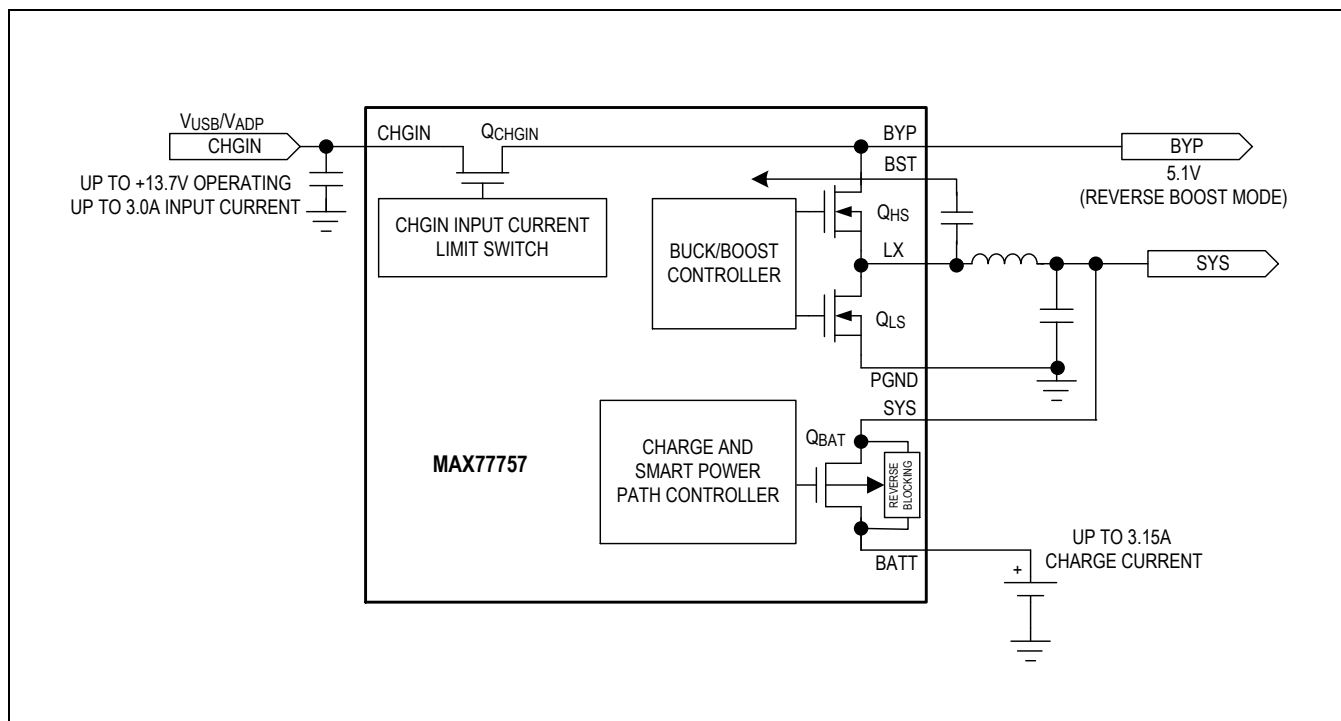
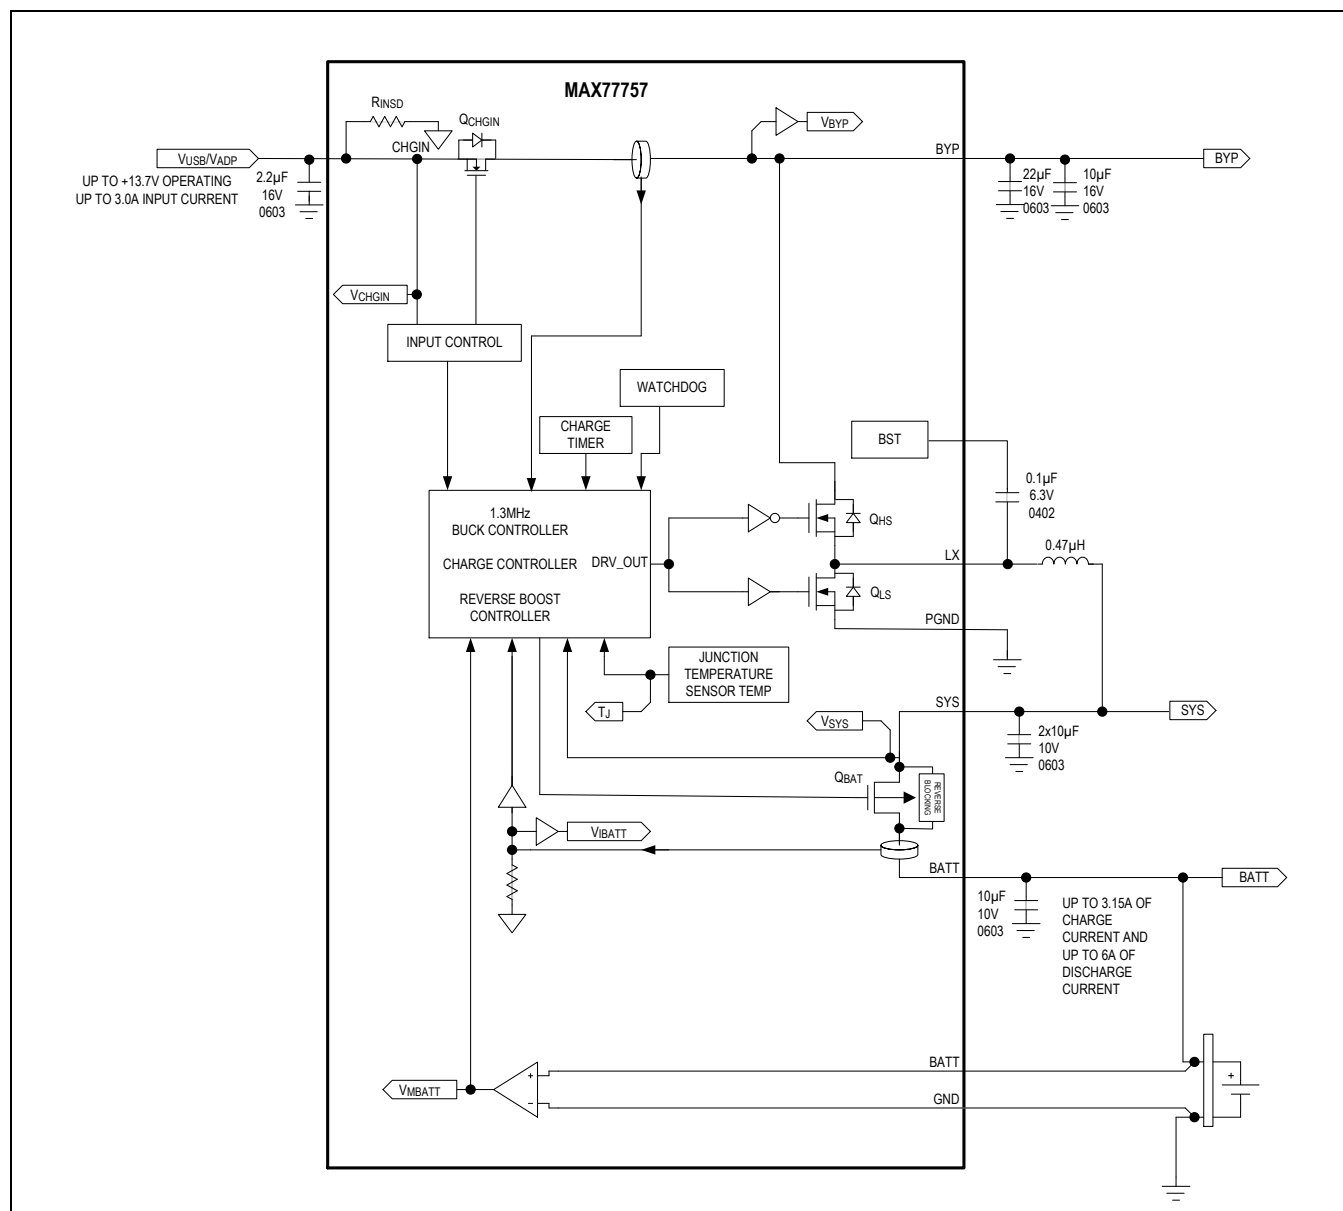

Figure 1. Simplified Functional Diagram
Figure 2. Main Battery Charger Detailed Functional Diagram
The MAX77757 is a switch-mode charger for a one-cell lithium-ion (Li+), lithium polymer (Li-polymer), or LiFePO₄ battery. The current limit for CHGIN input is configured automatically allowing the flexibility to connect to either an AC-to-DC wall charger or a USB port, as shown in Figure 2.
Figure 1 shows a simplified arrangement for the smart power selector's power steering switches. Figure 2 shows a more detailed arrangement of the smart power selector switches with the following names: QCHGIN, QHS, QLS, and QBAT.
- CHGIN Input Switch: QCHGIN provides the input overvoltage protection of +16V. The input switch is either completely on or completely off. As shown in Figure 2, there are SPS control loops that monitor the current through the input switches as well as the input voltage.